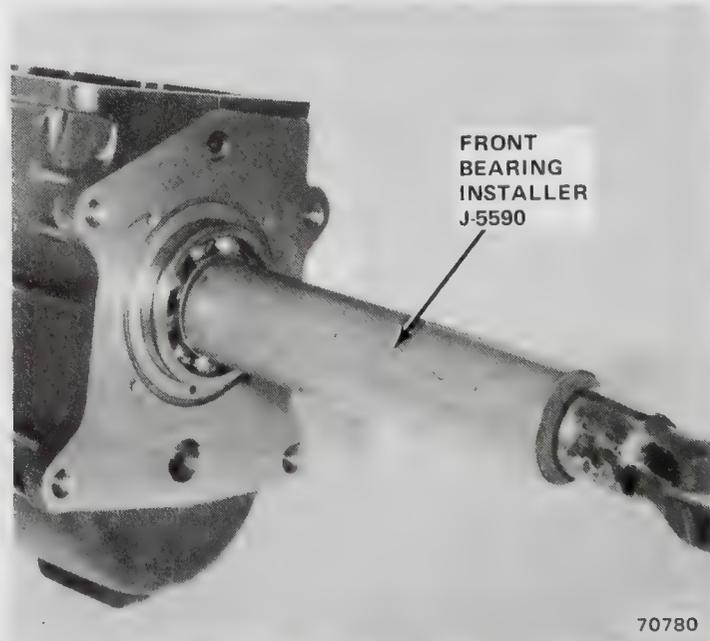

Fig. 2B-73 Front Bearing Installation
(30) Install replacement oil seal in front bearing cap using tool J-26540 (fig. 2B-74).
(31) Position replacement front bearing cap O-ring on case and install front bearing cap.